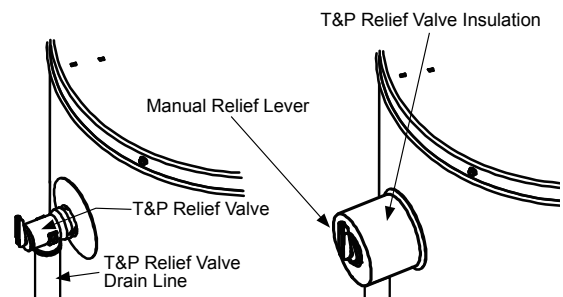

FIGURE 5.
1. Locate the temperature and pressure relief valve on the water heater (also known as a T&P relief valve). See Figure 5.
3. Spread the slit open and fit the insulation over the T&P relief valve. See Figure 5. Apply gentle pressure to the insulation to ensure that it is fully seated on the T&P Relief Valve. Once seated, secure the insulation with duct tape, electrical tape, or equivalent. **IMPORTANT:** The insulation or tape must not block the discharge opening or hinder access to the manual relief lever (Figure 5). Ensure a discharge pipe is installed into the T&P valve discharge opening per the instructions in this manual.